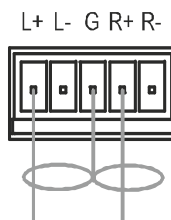

Figure 7: Unbalanced Stereo Audio Output Connection
- An unbalanced stereo audio output connection, see Figure 7